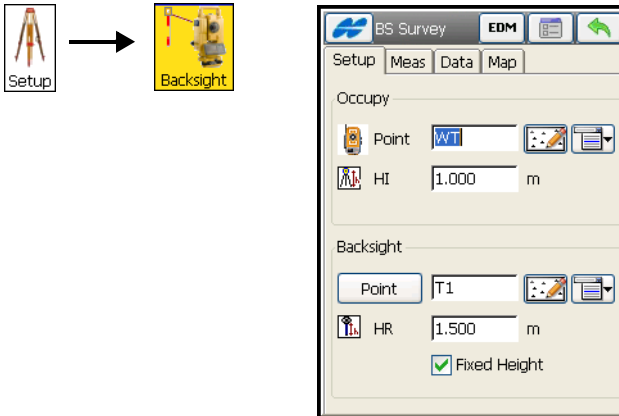
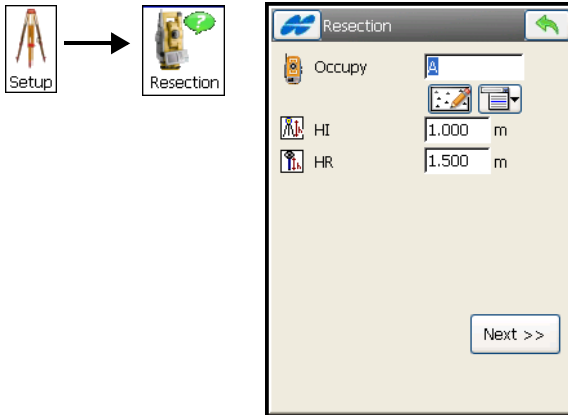

Figure 8-34. Backsight Survey Setup
Figure 8-40. Occupation Point
1. Tap **Setup ► Backsight** (Figure 8-34 on page 8-37). The **BS Survey** screen displays.
2. On the *Setup* tab of the **BS Survey** screen, set the following backsight parameters (Figure 8-34 on page 8-37):
- Set the height of the instrument (*HI*) and the height of the reflector (*HR*), choose the backsight point/backsight azimuth (or enter multiple backsight points using the floating menu on the bitmap in the corresponding field) and check if the height of the backsight point rod is fixed for the whole set of measurements in *Ang/Dist Sets-Dir/Rev* mode (Figure 8-34).
2. Tap **Setup ► Resection** (Figure 8-40). This function is also available from the *Backsight Survey* screen. Tap **Setup ► Backsight**, then tap the menu icon  and select the *Resection* item (Figure 8-34 on page 8-37).